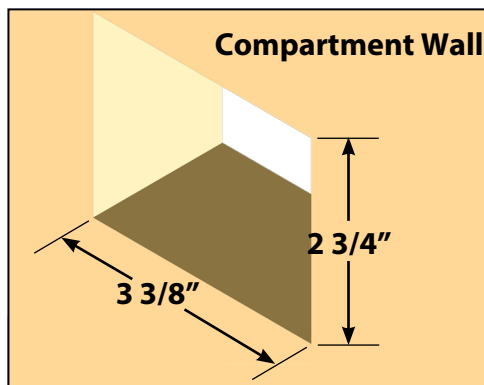

Fig.18
3. Cut a hole in the wall of the compartment 3 3/8" wide by 2 3/4" high so the top and bottom horizontal cuts are parallel to the floor of the compartment (Fig. 18).